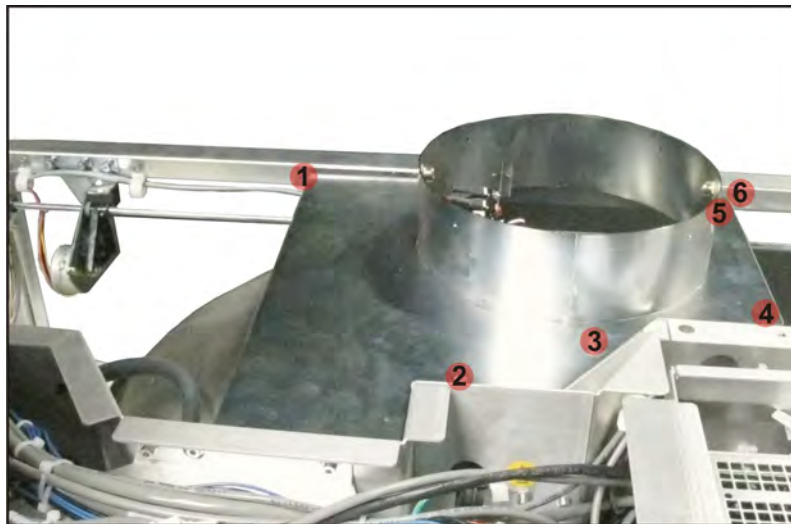

Figure 5-65 Remove Screws Securing Duct
7. Use a 3mm hex key to remove the six other screws on the duct. (**Figure 5-65**)